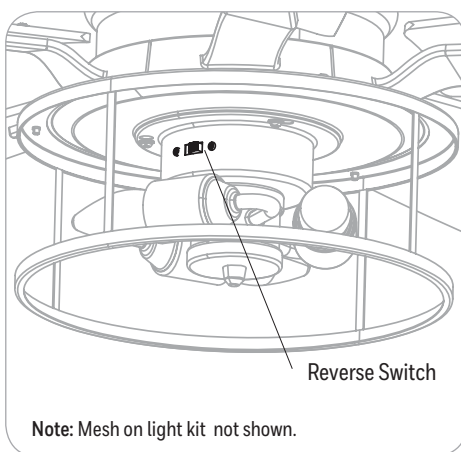

Figure 6.2
2. Use the reverse switch located on the light kit to optimize your fan for seasonal performance. **In warmer weather**, push the reverse switch left which results in downward airflow creating a wind chill effect. **In cooler weather**, push the reverse switch right which results in upward airflow that will help move hot air of the ceiling (Figure 6.2).